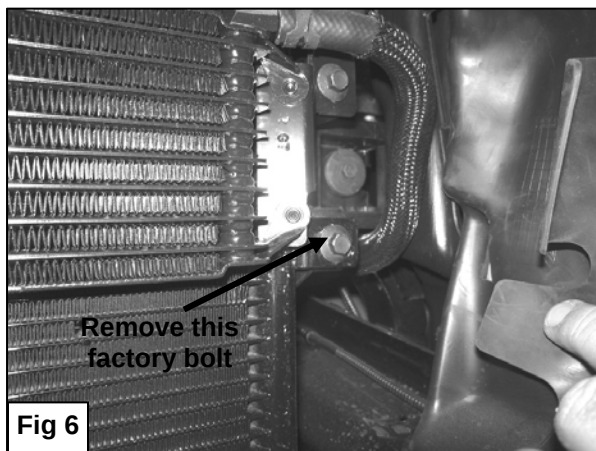

Fig 6
8. Locate the rubber shroud on the driver side of the radiator and pull it to the side to expose the two factory bolts by the radiator hose. Remove the bottom factory bolt **(Figure 6)**.